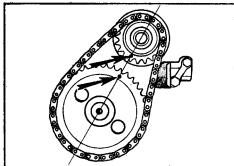

Fig.18 - Valve timing marks
6. Position the timing marks as shown in Fig. 18, retract the chain tensioner slipper and draw both chain wheels, and chain off the shafts.